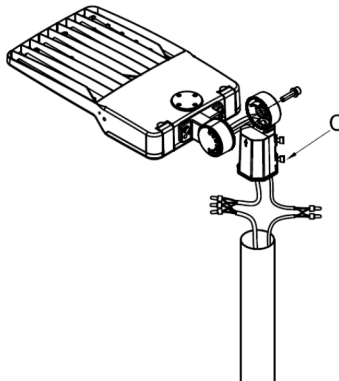

Fig. 10
3. Place the slipfitter over the tenon and secure the fixture with set screws at Con the side slipfitter, as shown in Fig. 10.